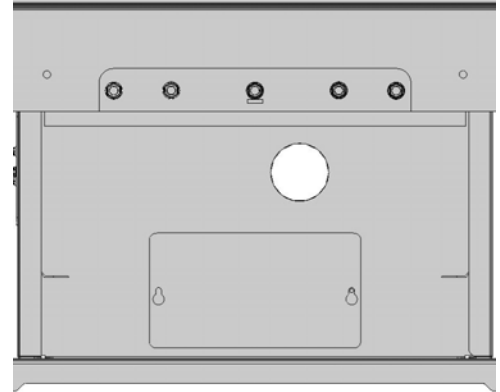

Figure 4
- A. Locate clean out panel on back wall behind ash drawer. Loosen screws and remove panel. Vacuum area behind panel. Figure 4.